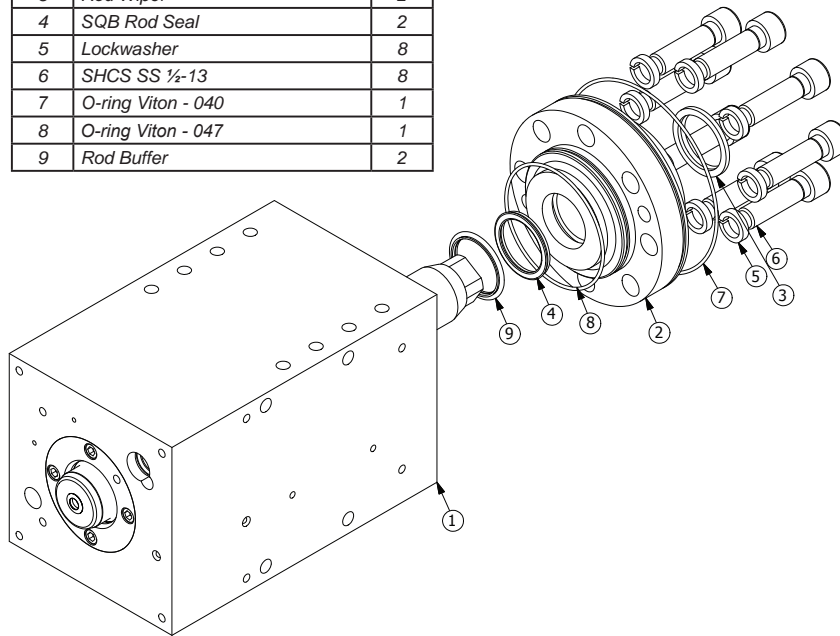

Figure 4.M.18.4-C End Cap Rebuild
1. Refer to Figure 4.M.18.4-C and remove the eight ½ - 13 screws (6) and eight lock washers (5).